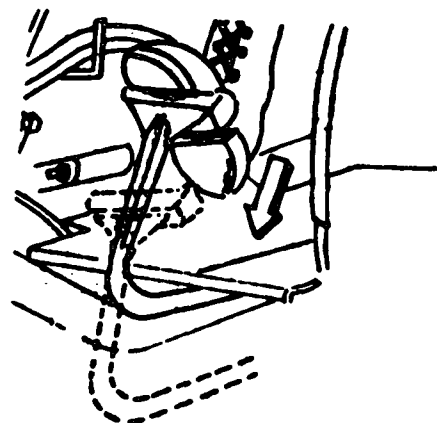

Fig. 1
- b) Press the clutch pedal and put the gearshift in the neutral position (Figs. 1 and 2).